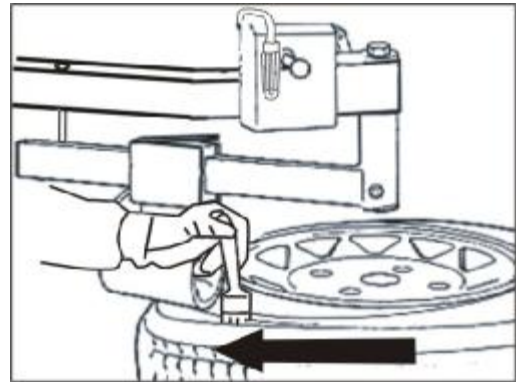

Fig.31
- I Depress the pedal “Ⓢ” to turn the turntable clockwise, lubricating the bead with brush.(fig.31)